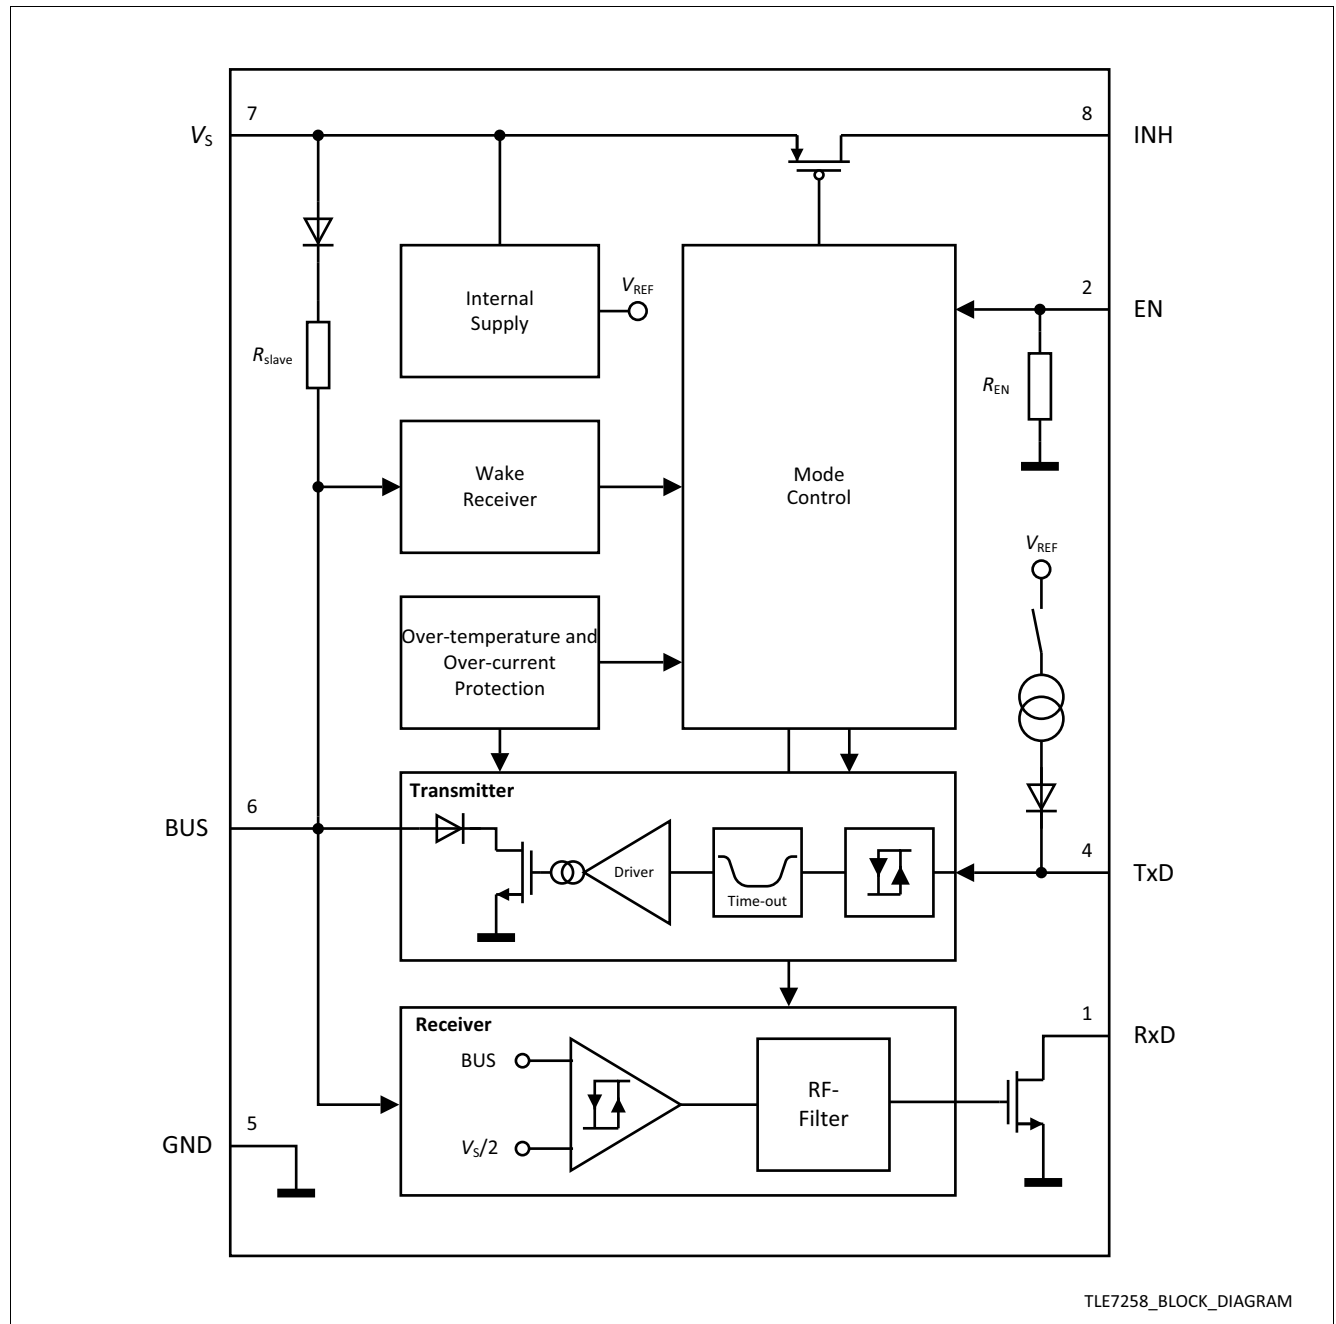

Figure 1 Block diagram
1) The TxD input is disabled in sleep mode and the internal pull-up current source is switched off (see Figure 1).
- The BUS pin is terminated to V_S via the internal termination resistor R_{BUS} (see Figure 1).
- The BUS output is terminated to V_S via the internal termination resistor R_{BUS} (see Figure 1).